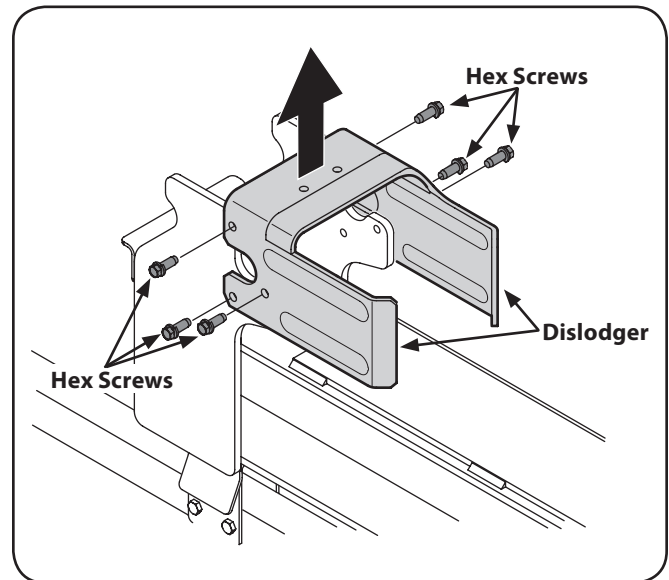

Figure 3-4
14. Disconnect the dislodger from the beam weld bracket by removing the six hex screws. See Fig. 3-4.
17. Attach the dislodger over the wedge assembly and secure it to the weld brackets with the previously removed hardware. See Fig. 3-4.